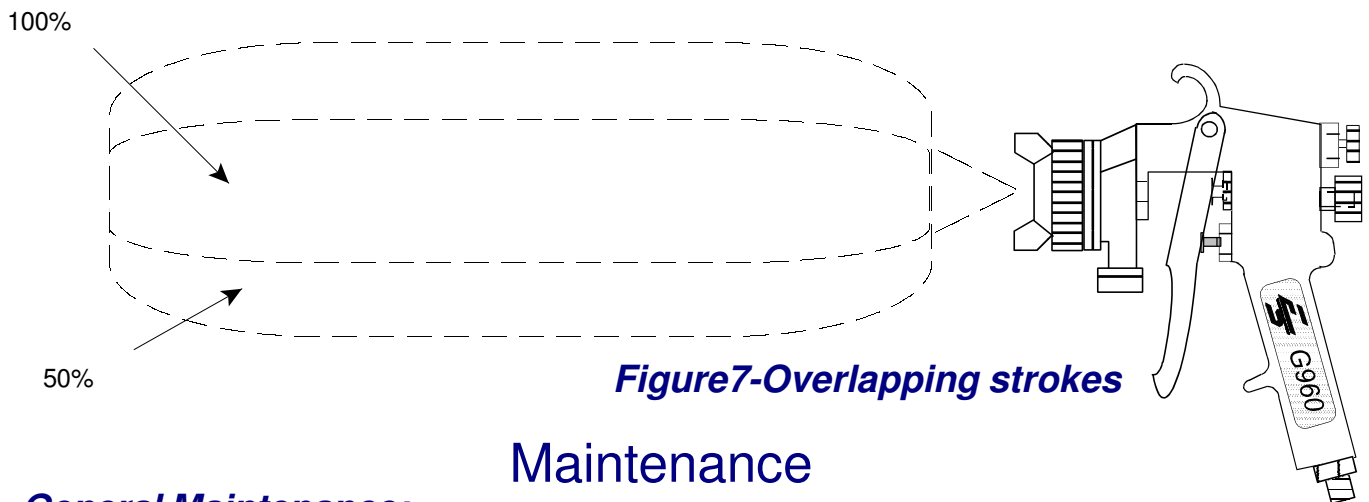

Figure 7-Overlapping strokes
- * Make smooth, thin and even strokes across the work. Overlap each stroke by about 50%. (See Figure 7)